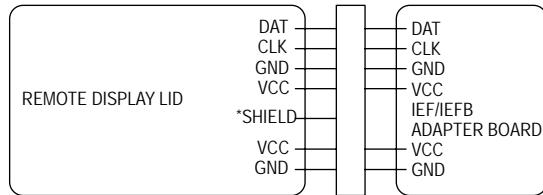

Figure 5: Wiring diagram
**Note:** Refer to Figure 5 wiring diagram for proper wiring of remote display to IEF/IEFB.